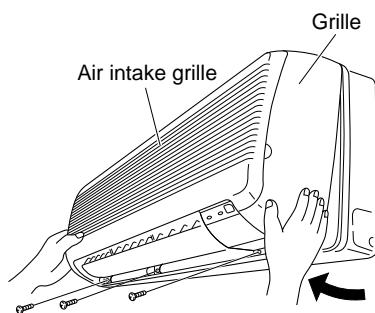

Fig. 14c
- (1) Set the 2 flaps in the horizontal position.
- (2) Unscrew the 3 screws. (Fig. 14c)
- (3) Remove the grille.
- (c) Pull the lower part of the grille toward you to remove. (Fig. 14c)